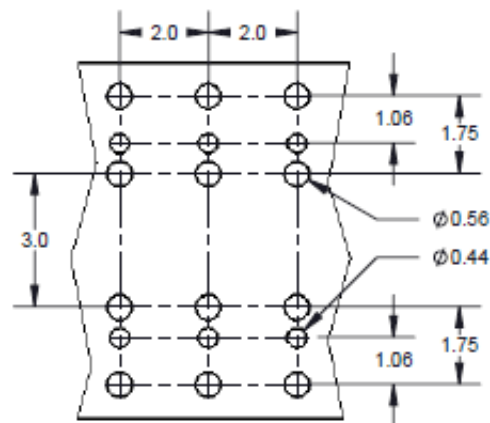
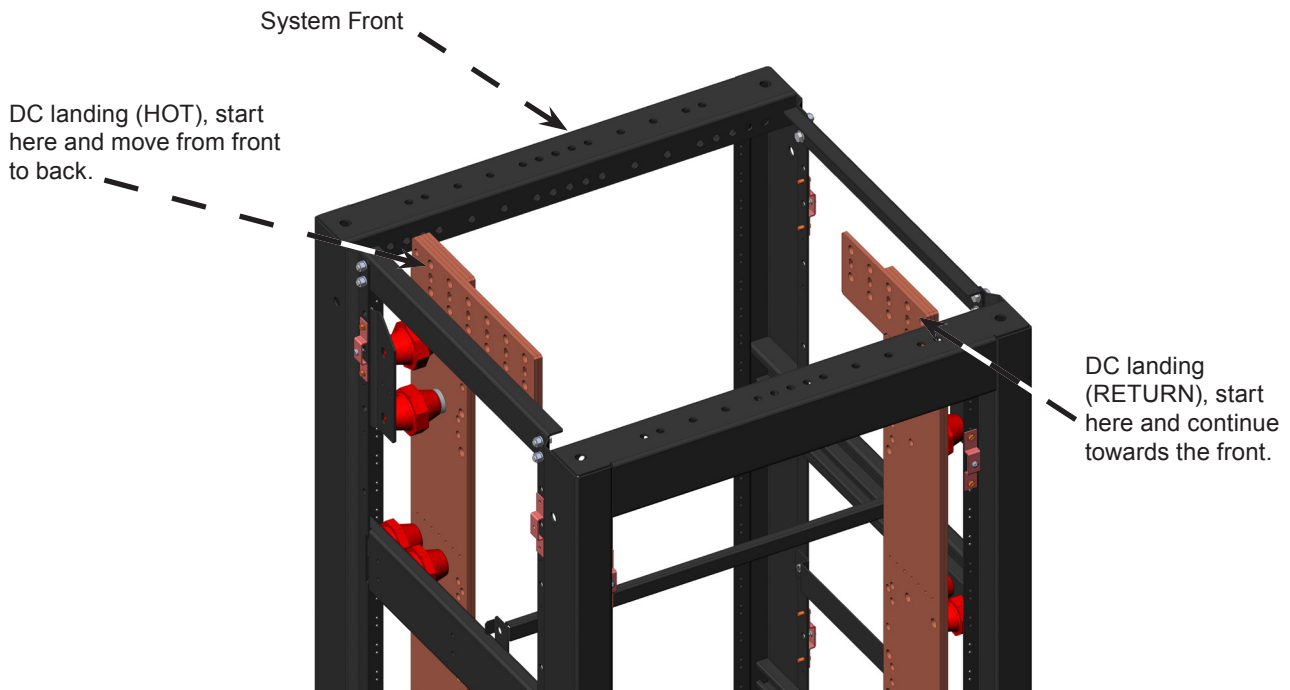
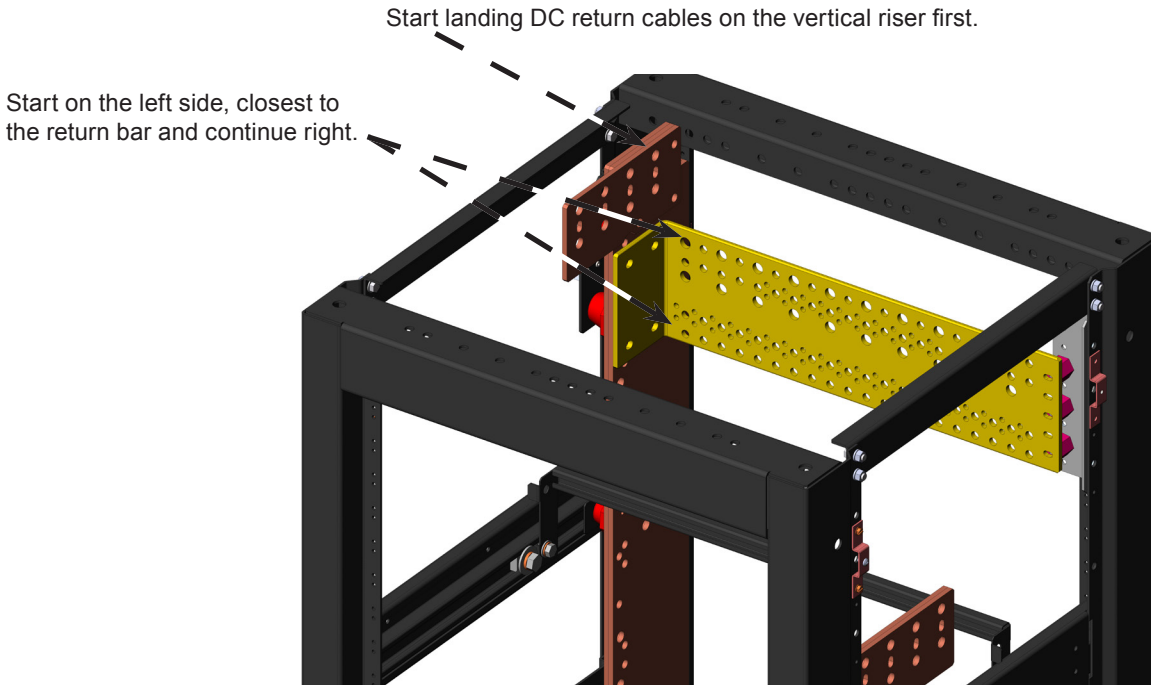

Figure 23 — Customer connections spacing
Figure 24 — DC connection without AC panel option
Figure 27 — Internal return bar
**Start at the front-most corner and move towards the back as shown in Figure 23.**
Connect directly to the -48V bus bar at the top of the rack (see "Figure 23 — Customer connections spacing" on page 36 and "Figure 24 — DC connection without AC panel option" on page 37 ) or the external hot bar ("Figure 27 — Internal return bar" on page 39).